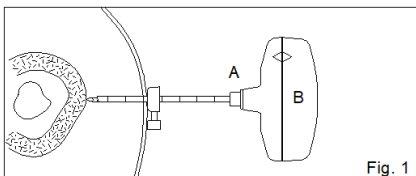

Fig. 1
**FIG. 1** Depending on the depth of the bone to be reached, adjust the depth gauge on the Cutting Cannula (A) to the appropriate centimeter marker and tighten to provide a visual guide. Introduce by rotating counterclockwise the assembled Cutting Cannula and Stylet with Trocar Tip (A+B) until engaged with the bone surface.